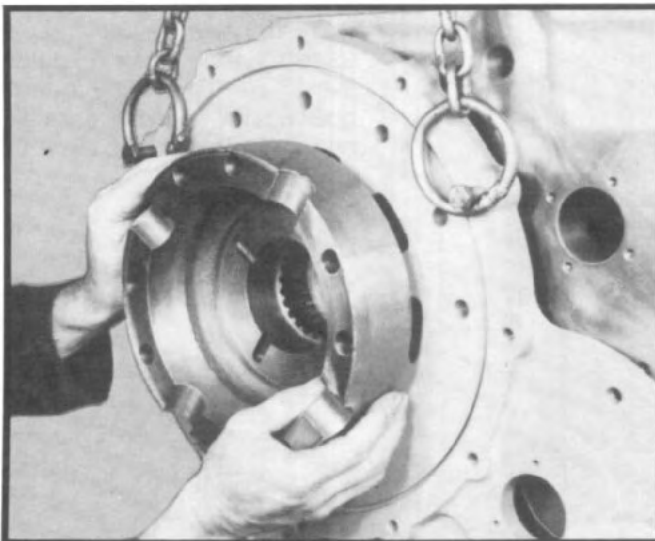
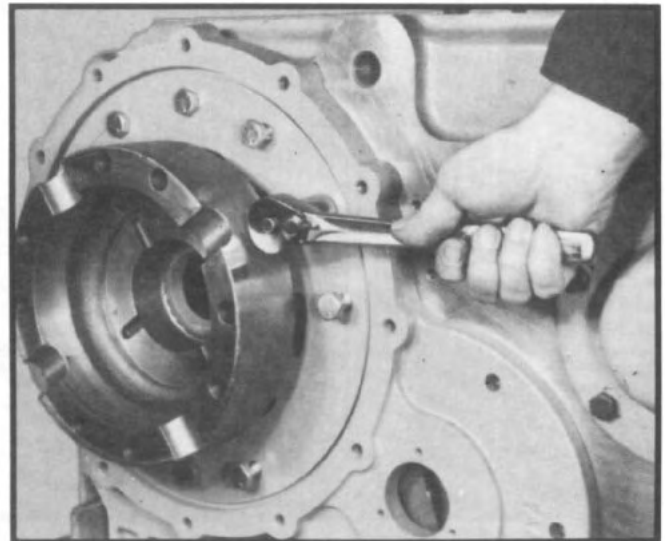

Fig. 121
Fig. 122
2.13 Using a chain hoist, install rear face plate and gasket to housing by first inserting the front of the differential case onto the lower shaft spline and then installing the face plate into the lower shaft rear bore. (See fig. 121.) Tap the face plate flush against the housing. Rotate the face plate to the proper position and bolt face plate to housing with 15 capscrews. (See fig. 122.)